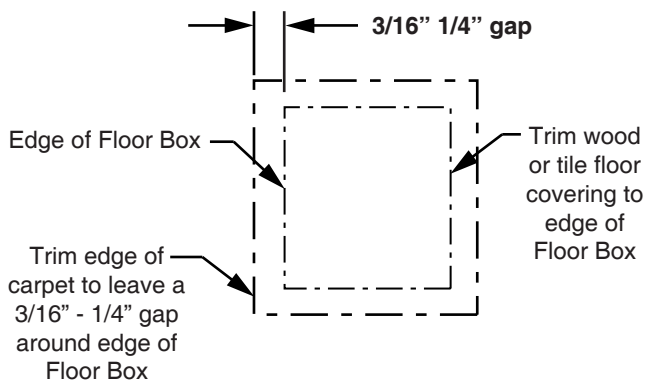

Figure 1
- 1) Trim Floor covering to dimension of Figure 1.